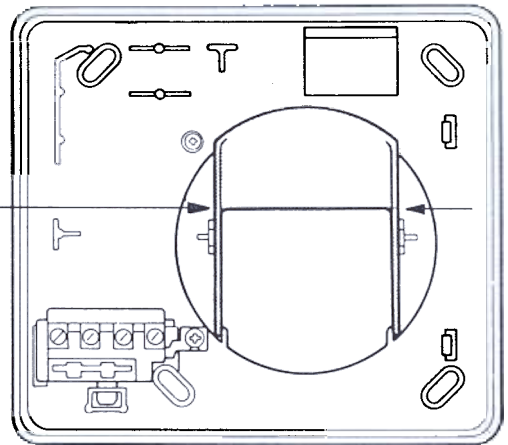

Fig. 17
**9.4** Remove the backdraught flap from the backplate (see Figs. 17 and 18) as flaps are provided in the outer cover.
**10.6.3** Turn the adjuster knob clockwise to increase and anti-clockwise to decrease speed (see Fig. 16). If it is intended to reduce the speed below the factory setting, it is recommended that the backdraught flap be removed (see Figs. 17 and 18).